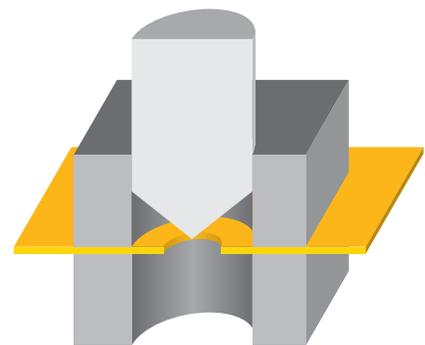

figure 2
5. Place the appropriate center positioning die into the block with the pointed end down (*figure 2*). The point of the die will automatically position your sheet metal so that the interior hole of your washer is perfectly centered within the exterior diameter hole you're about to punch.